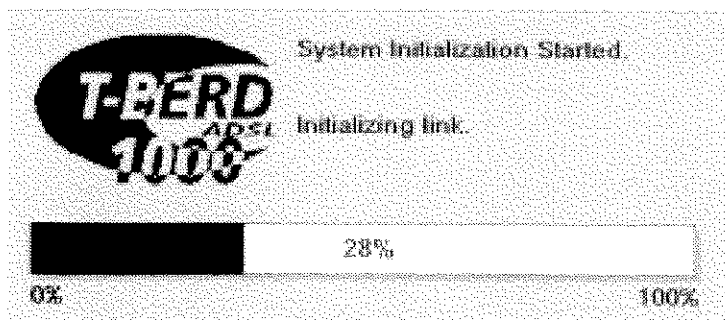

Figure 1-4. TTC/T-BERD 1000 Initialization Screen
1. Turn the unit on. The green Power LED should illuminate. At this time, the unit performs its own initialization and diagnostic sequence. Activity on the progress bar indicates proper operation. Figure 1-4 shows the initialization screen. This process should take about one minute.